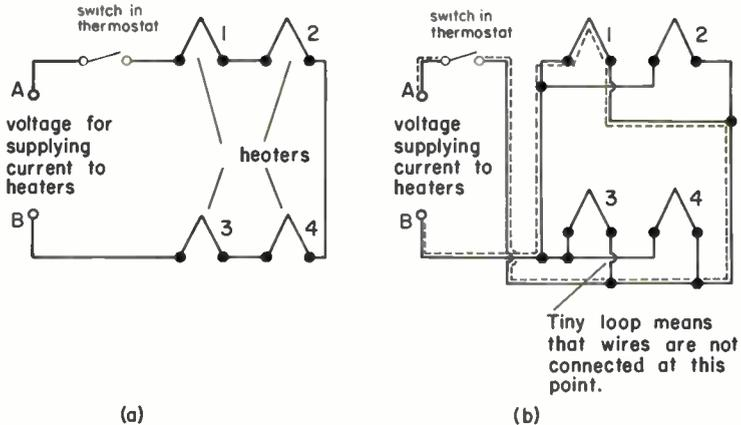

Fig. 3
8. Certain circuits must be able to perform properly despite changes in the temperature of the environment. To test such circuits, you place them in a chamber where the temperature can be controlled by an electronic thermostat. Assume that one such chamber contains four heaters, and that the technician can connect the heaters in either of the two ways shown in Fig. 3(a) and (b). In Fig. 3(a), the heaters are connected in *(series) (parallel)*. If each heater requires 200 mA, the switch in the thermostat must be able to handle _____ mA.
9. To see how the heaters in Fig. 3(b) are connected, start at voltage-source terminal *A* and—with your pencil point—try to trace a path that will take you through heater 1 and back to voltage-source terminal *B*. The dashed line shows the path you'll have to take. (Note that you didn't trace through any of the other heaters.) Now, trace from *A* through heater 2 back to *B* in a similar manner. Do the same thing with heaters 3 and 4. If, in every case, you are able to go from *A* through the heater being considered and back to *B* without passing through any other heater, then you know that the heaters are connected in *(series) (parallel)*.
10. If, in Fig. 3(a), you trace from *A* through heater 1 and back to *B*, you *(must) (must not)* also pass through heaters 2, 3, and 4. This verifies that the heaters of Fig. 3(a) are connected in _____.
11. Since each heater in Fig. 3(b) requires a current of 200 mA, how much current will the switch in the thermostat have to handle?